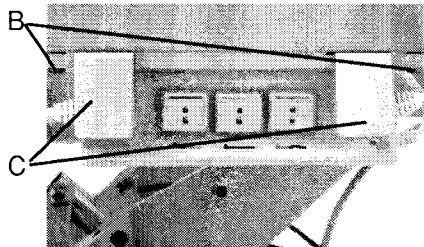

Figure 2
- 12 With the Phillips head screwdriver, remove the two screws (B) securing the lock-out unit. Recover these screws together with the 2 connector covers (C) (refer to figure 2)